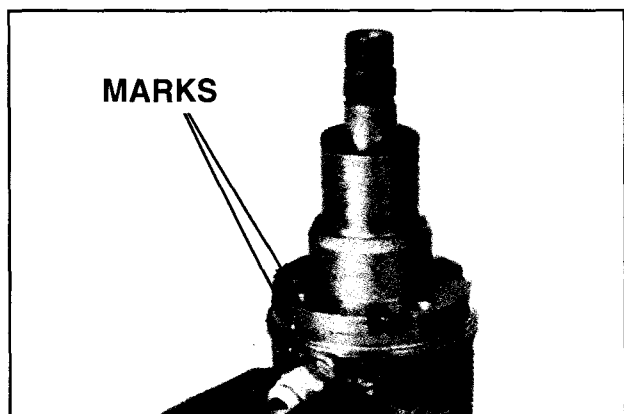
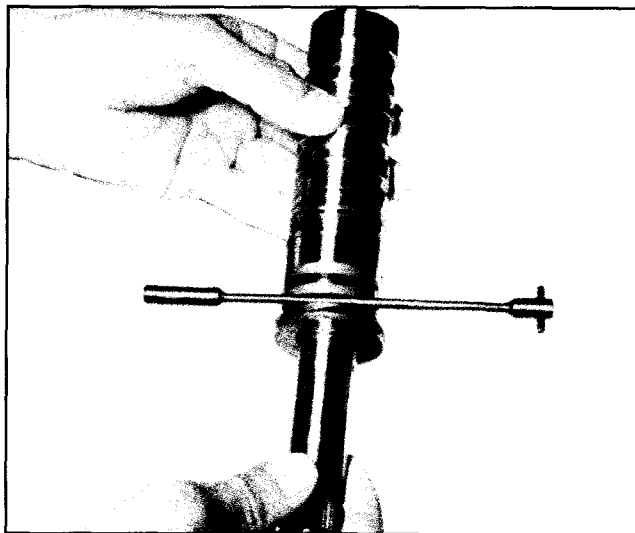

Figure HGA-11
Figure HGA-17
10. Reverse the HGA unit in the vise to place the input shaft (16) in a vertical position. Using a prick or center punch, mark the upper cover flange (7) in relation to a similar mark placed on the port face of the housing (25) to facilitate reassembly. (See Figure HGA-11).
1. Insert ball (26) into its cavity in the housing.
2. Install new "o" ring (27) on plug and roll-pin assembly (28) and install in the housing (25) to 10-14 ft. lbs. torque.
3. Reclamp housing (25) in the vise as shown in Figure HGA-11.
4. Assemble thrust washer (13), thrust bearing (12), thrust washer (11) and retaining ring (10) on input shaft (16).
5. If the retaining spring (24) has been removed, install a new retaining spring. The spring must fit tightly.
6. Insert actuator ball (23) into ball seat located inside spool (22).
7. Assemble wave spring washer (14) over thrust washer (13) and thrust bearing (12). Insert the input shaft (16) into the spool, engaging the helix and ball with a counter-clockwise motion. This operation is best done while holding the spool in a horizontal position.
8. Using the mid-section of the torsion bar (20) as a gage, insert the gage between the spool end and the thrust washer (13). (See Figure HGA-17). This will position the spool in the necessary radial relationship with the input shaft spline teeth for assembly of drive ring (18).
9. Place the input shaft (16) and spool (22) assembly in a vertical position, with the shaft end on the table surface.